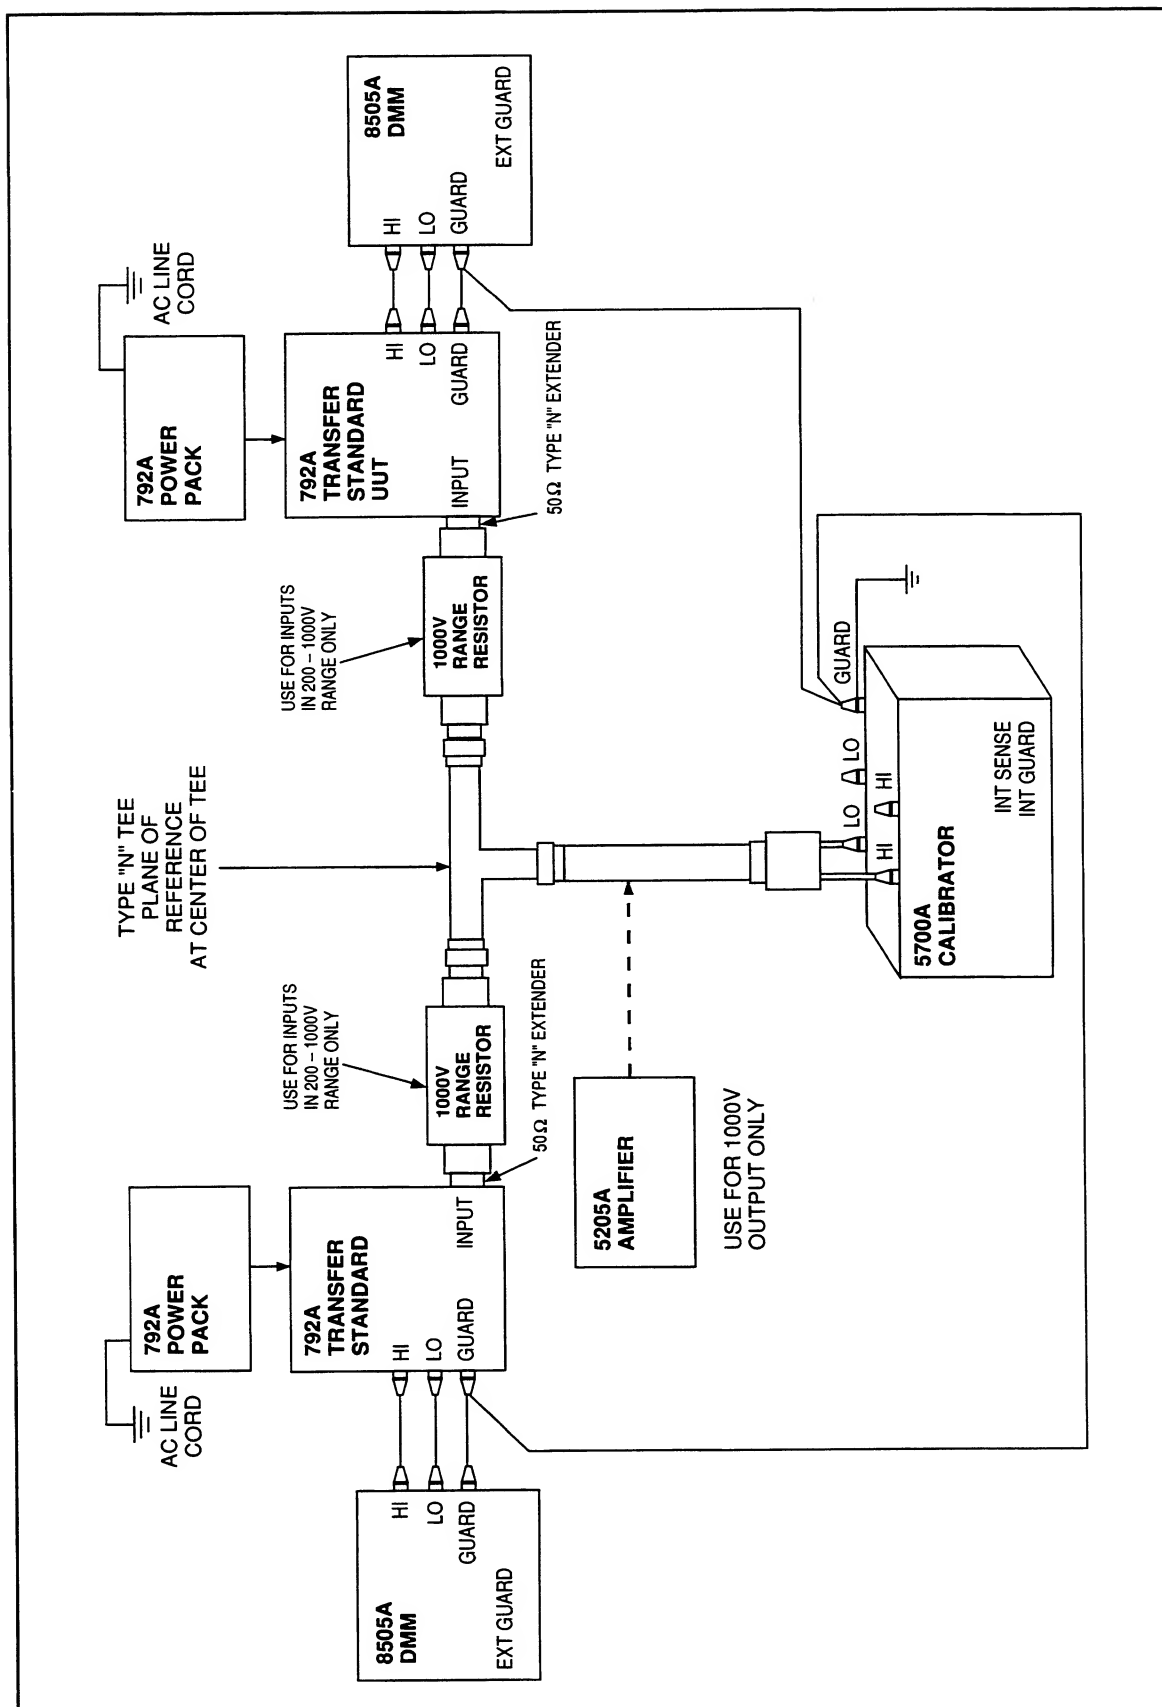

Figure 5-1. 792A Calibration Setup
- a. Connect the calibrator, the DMMs, the reference unit, and tee connector to the UUT as shown in Figure 5-1. Verify that all instruments have satisfied their warmup requirements. (For the transfer standard, the warmup requirement is 15 minutes.)